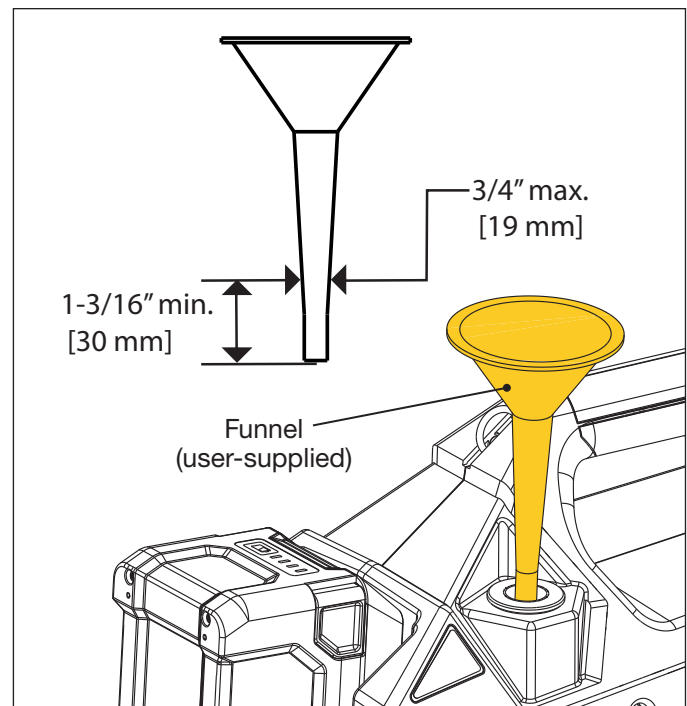

Figure 14: Adding Oil Using Funnel
5. Place a funnel (maximum 3/4" [19 mm] stem outer diameter & at least 1-3/16" [30 mm] long) through the fill opening and into the oil fill tube. See Figure 14.